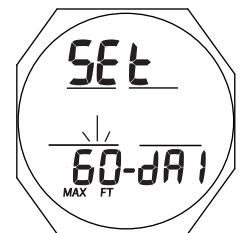

Fig. 110A - SET DA1
**Set DA1 Alarm**, information includes (Fig. 110A):